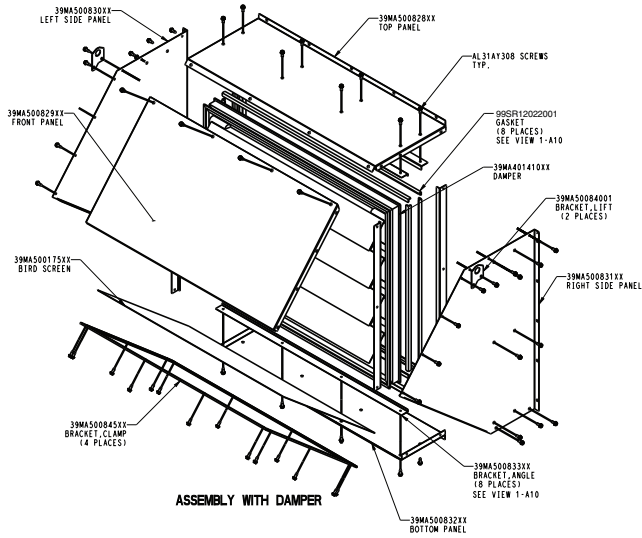

Fig. 71 — Exploded Power Exhaust Hood Assembly with Damper (Size 36 Shown)
1. Below is an exploded view of a power exhaust assembly with and without a damper. See Fig. 71 and 72.